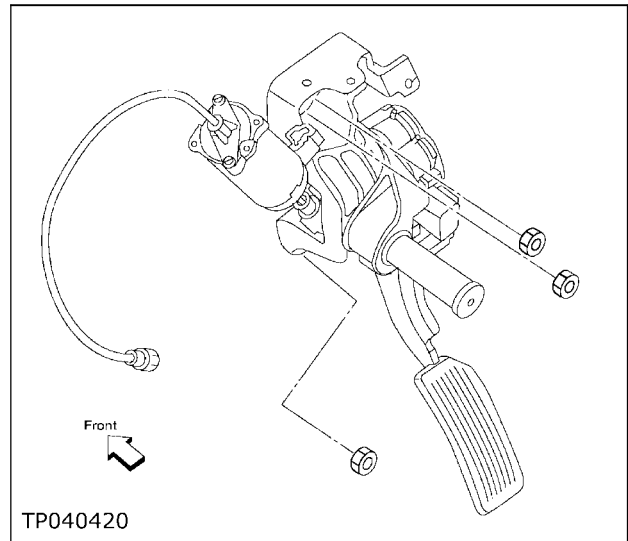

Figure 5
10. Using a 12 mm deep socket, remove the 3 nuts that hold the gas pedal assembly in place (see Figure 5). Move the assembly to the side.